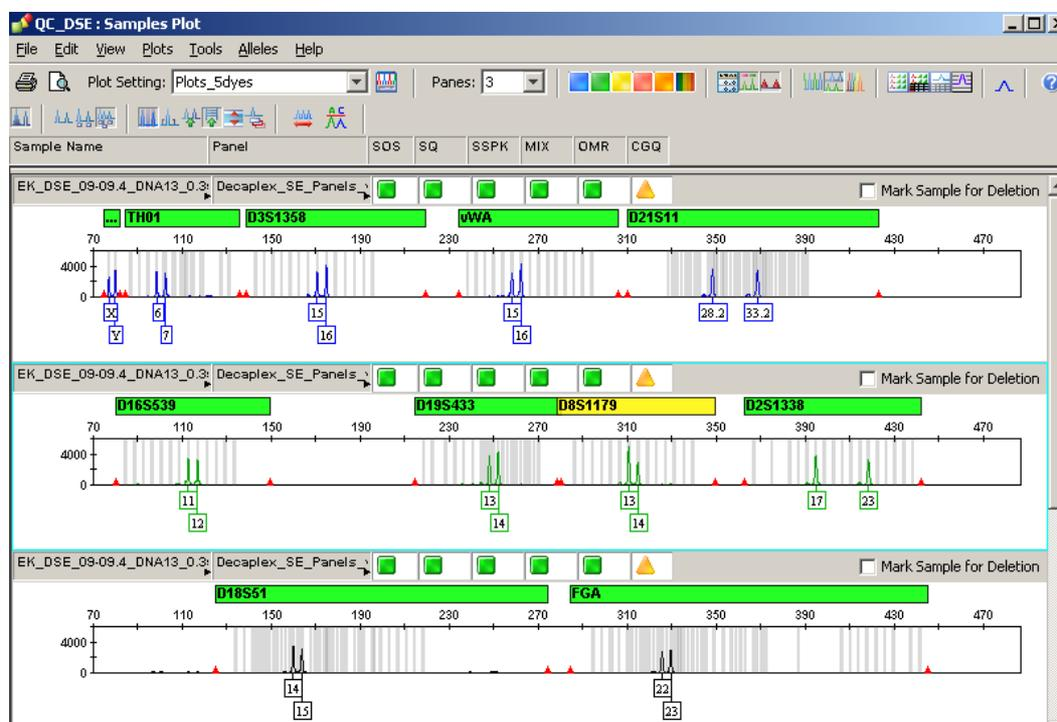

Figure 5. Sample plot after analysis using method HID_3130.
- In the plot window (Sample Plot), the labeled color panels are displayed (Figure 5)